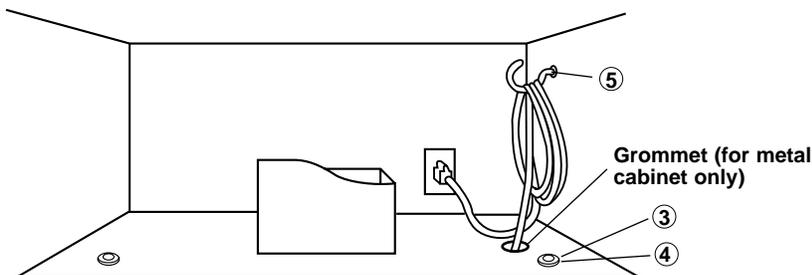

Figure 21
6. Use the two Top Cabinet Screws (3) and two Flat Washers (4), supplied in the INSTALLATION HARDWARE, to attach the unit to the top cabinet. See Figure 21.
Attach the Exhaust Damper Assembly (8) to the fan cover on the top of the outercase cabinet by sliding it into the slits in the same direction as the arrow. Use Tapping Screw 4 X12 mm (7) from the INSTALLATION HARDWARE and tighten into place. See Figure 21.
8. Make a bundle of the power supply cord and attach it to the inside of the cabinet using the Power Cord Hanger (5). See Figure 21.